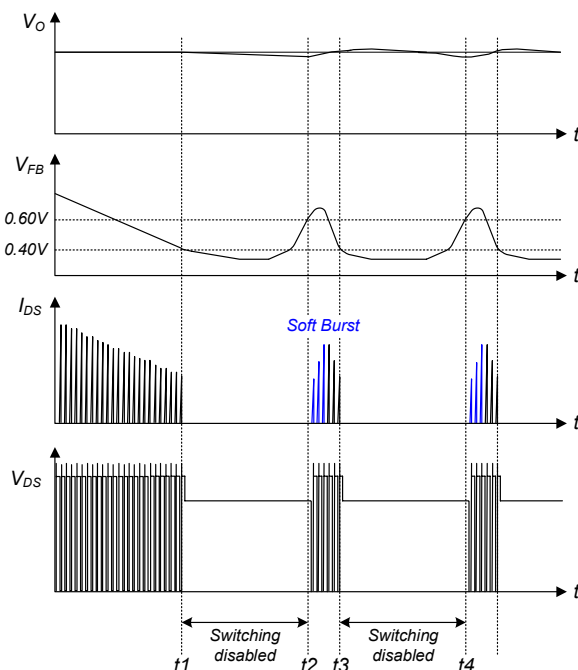

Figure 23. Burst-Mode Operation
**5. Soft Burst-Mode Operation:** To minimize power dissipation in standby mode, the FSGM0565RB enters burst-mode operation. As the load decreases, the feedback voltage decreases. As shown in Figure 23, the device automatically enters burst mode when the feedback voltage drops below  $V_{BURL}$  (400mV). At this point, switching stops and the output voltages start to drop at a rate dependent on standby current load. This causes the feedback voltage to rise. Once it passes  $V_{BURH}$  (600mV), switching resumes. At this point, the drain current peak increases gradually. This soft burst-mode can reduce audible noise during burst-mode operation. The feedback voltage then falls and the process repeats. Burst-mode operation alternately enables and disables switching of the SenseFET, thereby reducing switching loss in standby mode.